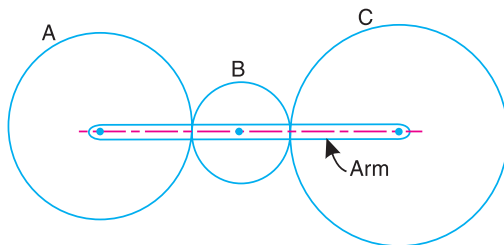

Fig. 13.33
4. In an epicyclic gear train, as shown in Fig. 13.33, the number of teeth on wheels A , B and C are 48, 24 and 50 respectively. If the arm rotates at 400 r.p.m., clockwise, find : 1. Speed of wheel C when A is fixed, and 2. Speed of wheel A when C is fixed.